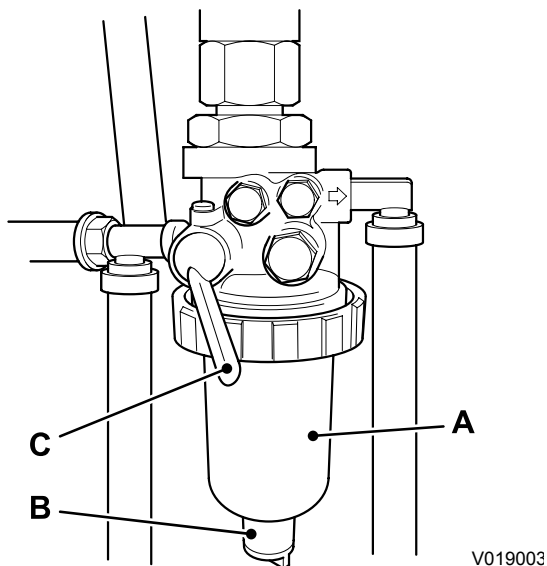

Fig 19.
- 3 If there is water but no sediment, turn off the fuel supply using fuel cock **C**, and drain off the water by opening tap **B**. → Fig 19. \(□ 3-38\)